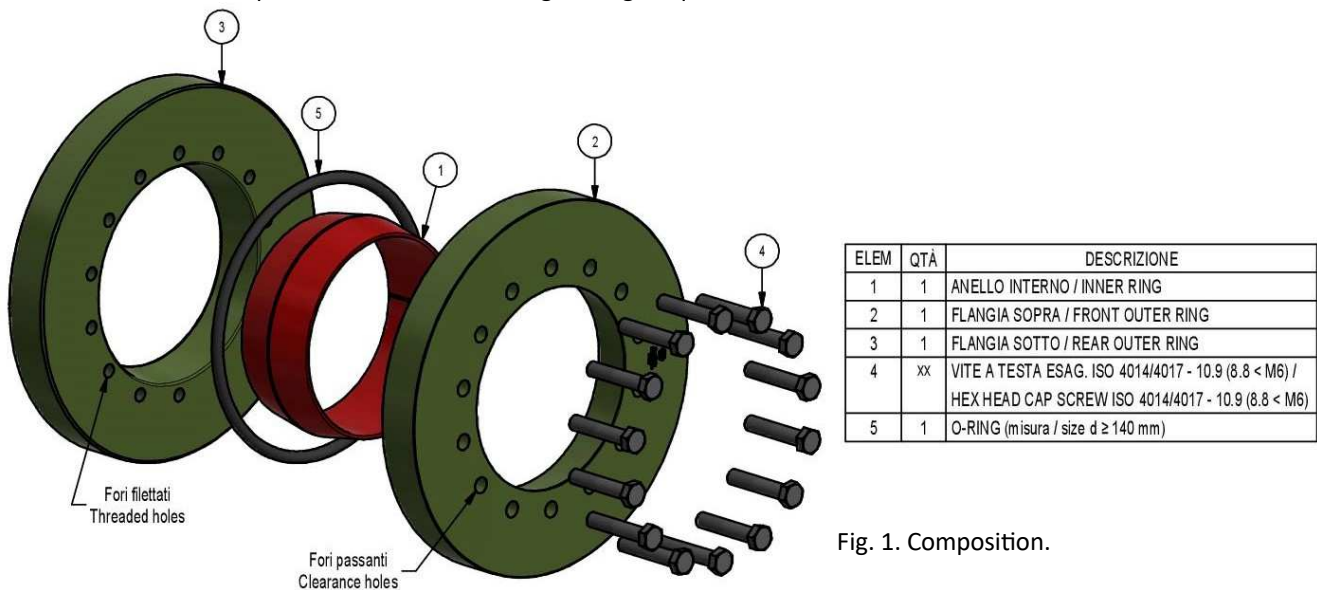

Fig. 1. Composition.
- **Shrink Discs are supplied ready for installation.** However, it is necessary to **remove the spacers** that may have been used for shipping purpose prior to initiating the installation. They are composed of (fig. 1):